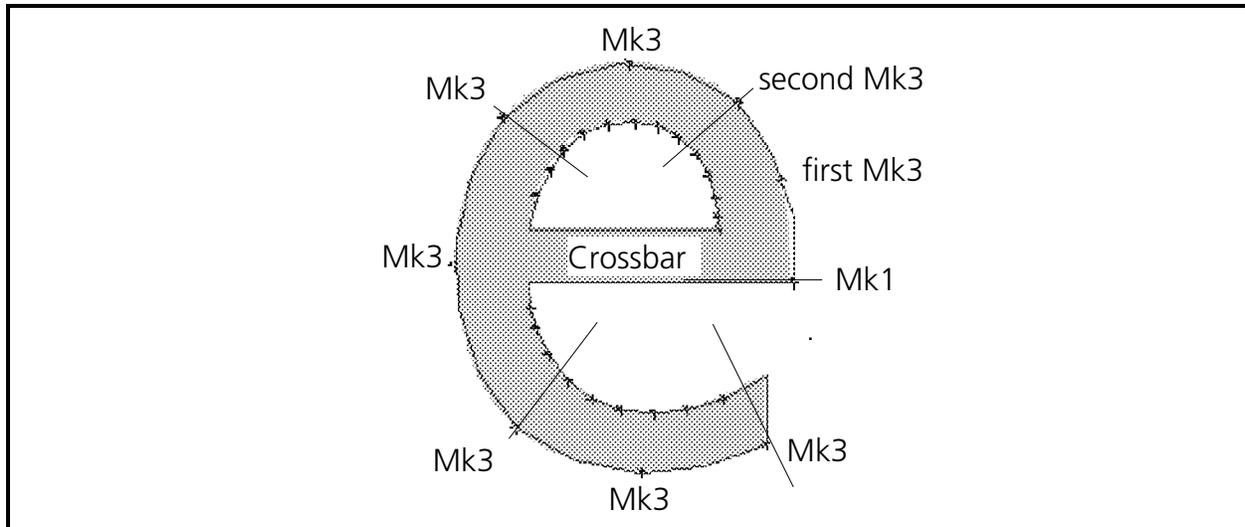

Figure 6-36
Rule one states to always begin with a Mk1. The beginning Mk1 has already been put at the lower right corner of the crossbar of the letter **e** (see step 6 in the previous section and Figure 6-36).
1. Click on the Mk3 push button in the Object Edit toolbar then enter a Mk3 in the middle of the first arc segment and another Mk3 at the location between the first and second arc segments (see Figure 6-36).